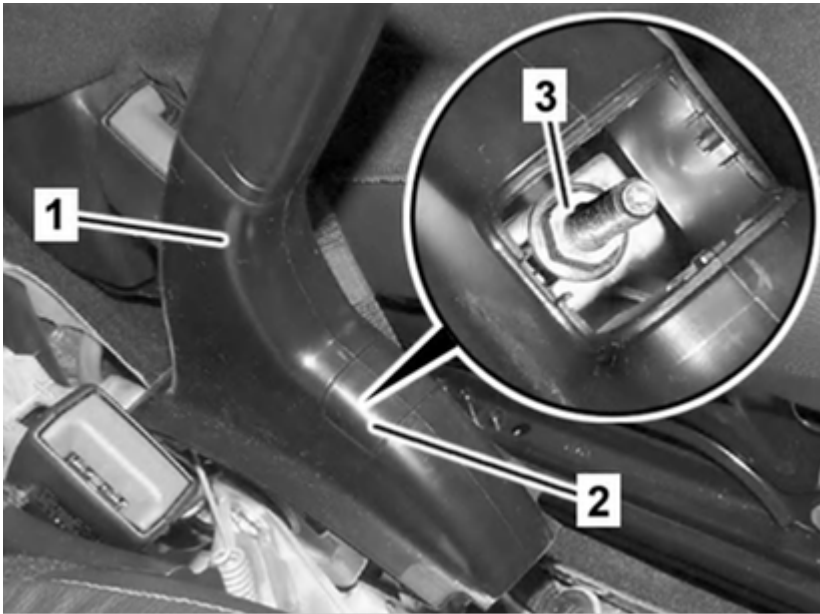

Figure 1
1. Check whether the adjusting nut (3) on the hand brake lever is a polystop nut or a micro-encapsulated nut (Figure 1).